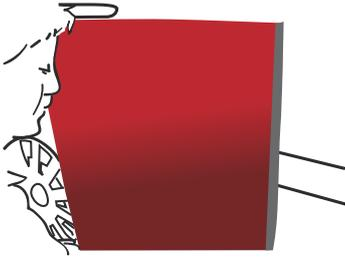

Figure 07
- › Remove all the liner. (FIG. 07)